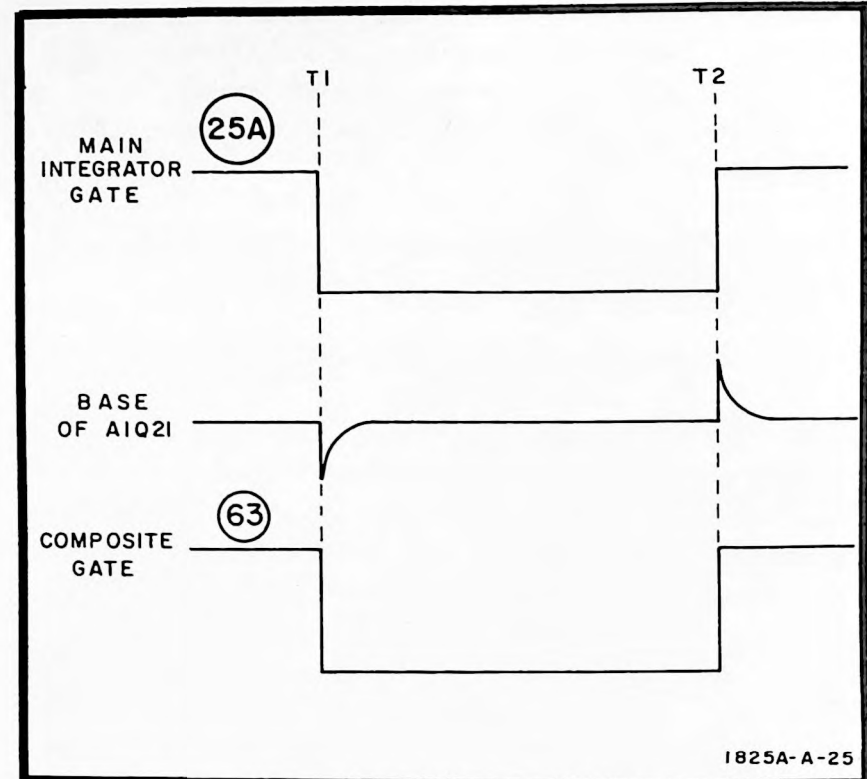

Figure 4-1. Sequence of Events, Main Mode Gate
4-175. In the quiescent state, A1Q22 is turned off. A1Q20 and A1Q21 are turned on. The circuit has been designed so that a pulse (square wave) from the main integrator to the base of A1Q20 will set the circuit midway between the upper and lower hysteresis limits. The Schmitt trigger is enabled and a small differentiated pulse on the base of A1Q21 will cause it to change states. The sequence of events for main mode is illustrated in figure 4-1. A1Q9 has been activated by -12.6 volts applied to the emitter. At time t_1 , a pulse arrives on line (25A) from the main integrator gate. The leading edge of the pulse is differentiated in the emitter circuit of A1Q19 and applied to the base of A1Q21. Since both conditions required to activate the Schmitt trigger are present simultaneously, the Schmitt trigger changes states and the composite gate on line (63) falls. The oscilloscope CRT turns on.
4-176. Removing the main integrator gate pulse from the base of A1Q20, or applying a positive-going pulse to the base of A1Q21 will reset the Schmitt. At time t_2 (figure 4-1) the main integrator pulse is removed. The trailing edge is differentiated in the emitter circuit. Since two conditions are present, either of which will reset the Schmitt trigger, the Schmitt trigger resets and the composite gate is terminated, turning the CRT off.